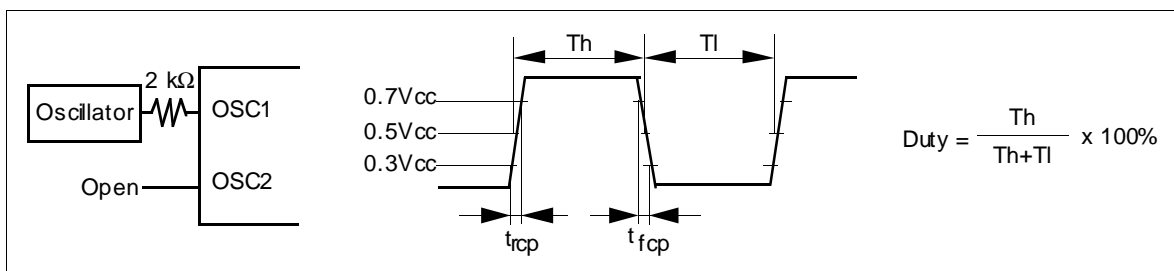

Figure 44 External Clock Supply
10. Applies to the external clock input (figure 44).